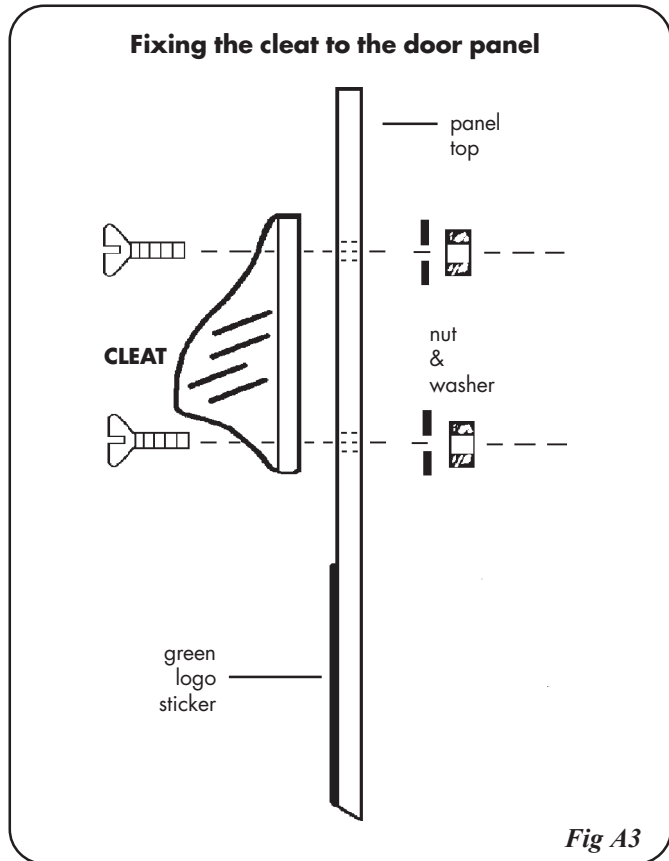

Fig A3
1. Fit the cleat **Fig A3**. It is bolted to the outside of the panel (same side as the green logo), and with the finely tapered section to the top. Fit a washer under each nut and take care not to overtighten, since it is possible to overstress the plastic.